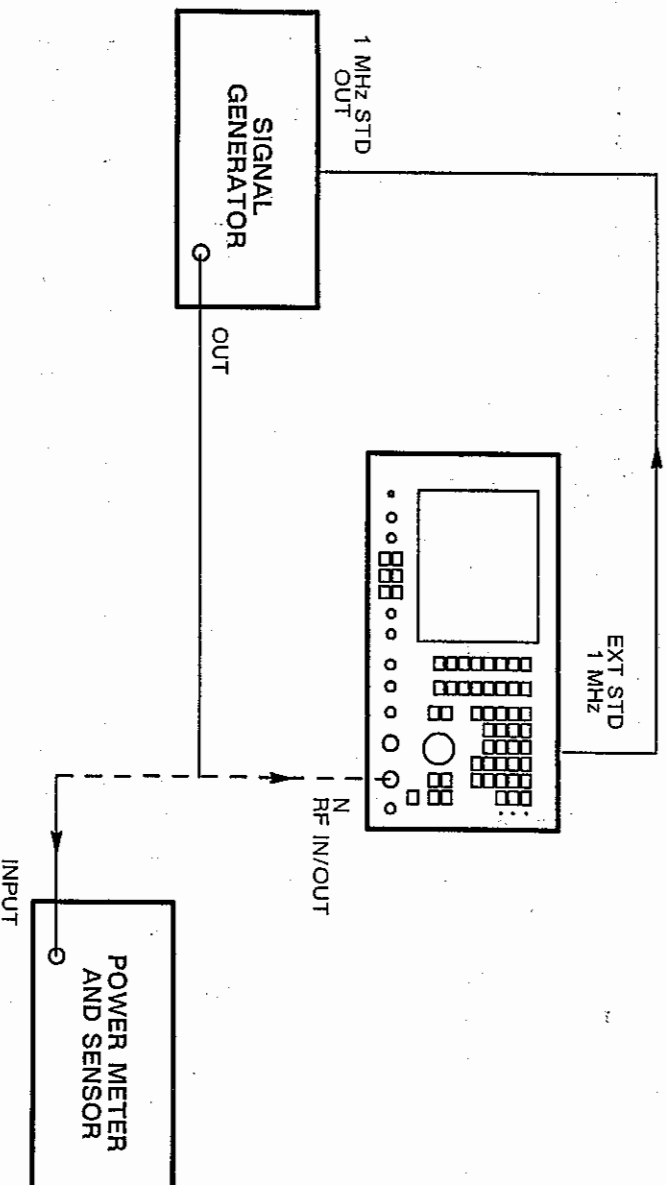

Fig. 6-10 Test equipment connections for RF frequency meter input sensitivity
- (1) Connect the signal generator 1 MHz standard output to the EXT STD 1 MHz socket. Connect the power meter through its sensor to the signal generator variable output. See Fig. 6-10.
- (2) On the 2955A, set TRANSMITTER TEST mode and the RF IN/OUT socket to N.
- (3) Set the signal generator carrier frequency to 100 MHz and modulation to off.
- (4) On the signal generator, adjust the RF level to give a reading of 5 mW on the power meter.
- (5) Transfer the signal generator variable output to the RF IN/OUT N socket.
- (6) Check that the RF frequency meter is locked and stable and that the reading is the same as the signal generator setting  $\pm 10$  Hz.
- (7) Transfer the signal generator variable output to the power meter.
- (8) Repeat (3) to (6) for other frequencies from 1.5 to 1000 MHz.